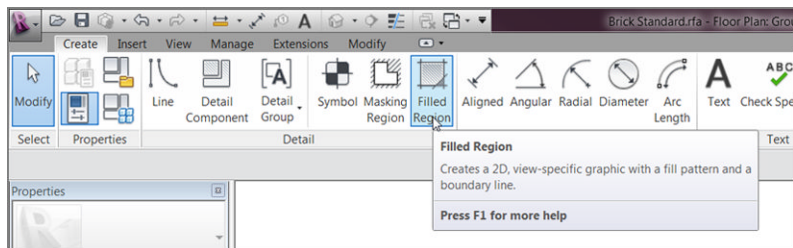

FIGURE 12.21: Click the Filled Region button on the Detail panel.
1. On the Detail panel of the Create tab, click the Filled Region button, as shown in Figure 12.21.